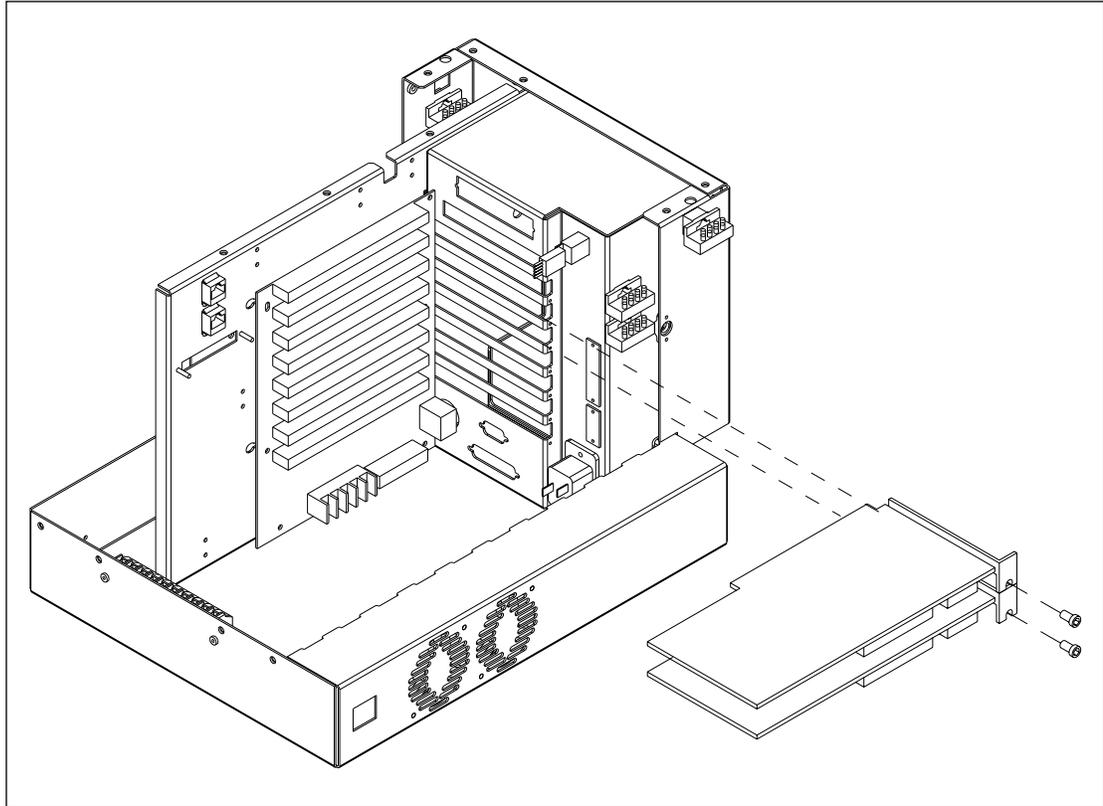
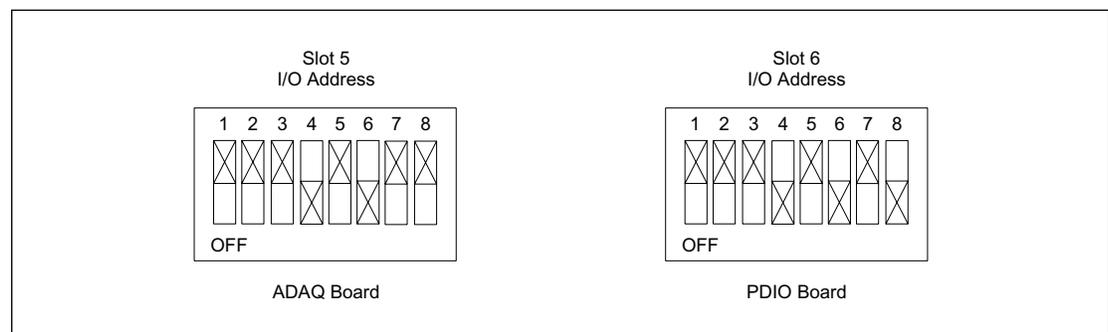

Figure 9-33. Analog Interface Board Mounting.
Figure 9-34. Analog Interface Board Address Programming.
For the following procedures, see figure 9-33. There are two analog interface boards that occupy two slots of the backplane motherboard. The two boards are identical except for the programming of the eight-segment address switch, S1. The address switches of the two boards are shown in figure 9-34.
1. Program the I/O address switch on the analog interface board as shown in figure 9-34.